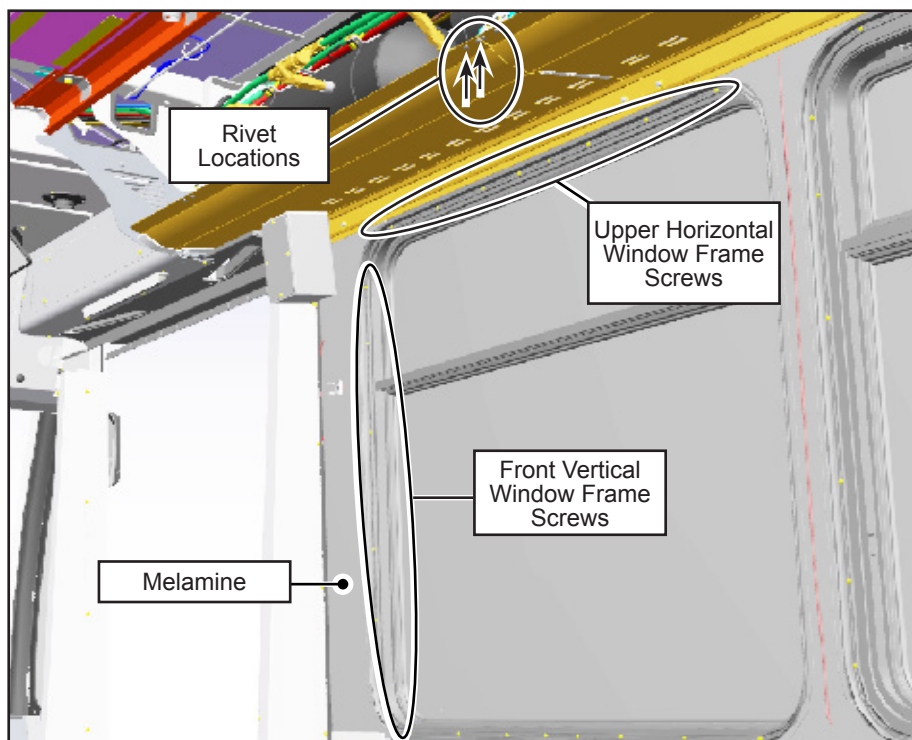

Figure 5 - Drill Out the Two Rivets and Remove Window Frame Screws
- 1.13. To remove the first baselight, start by drilling out the two rivets at the joint of the second baselight. See Figure 5.